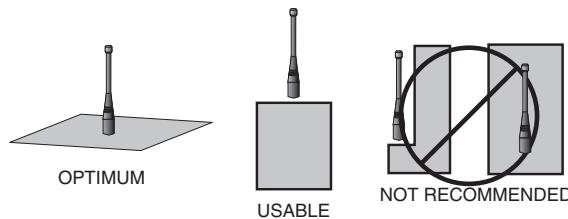

Figure 30: Ground Plane Orientation
2. Optimum performance is obtained from a $\frac{1}{4}$ - or $\frac{1}{2}$ -wave straight whip mounted at a right angle to the ground plane (Figure 30). In many cases, this isn't desirable for practical or ergonomic reasons, thus, an alternative antenna style such as a helical, loop or patch may be utilized and the corresponding sacrifice in performance accepted.